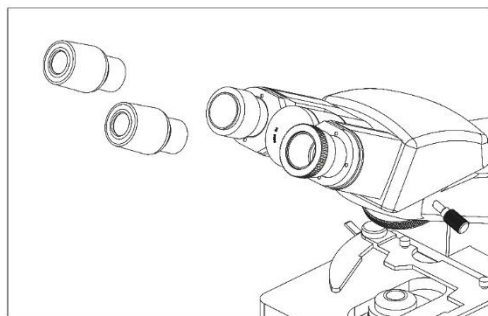
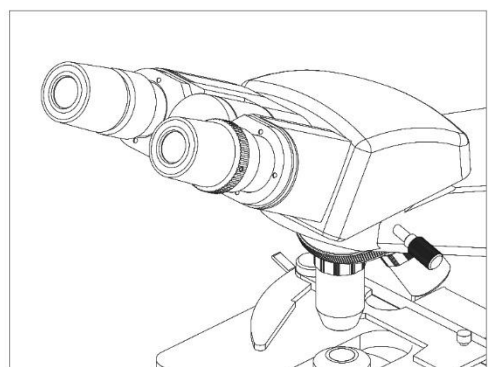

Fig. 4
Fig. 5
3.2.3. Installing the eyepieces (Fig. 4, Fig. 5)
Insert the eyepieces into the eyepiece tube until they are against each other as shown in Fig. 5.